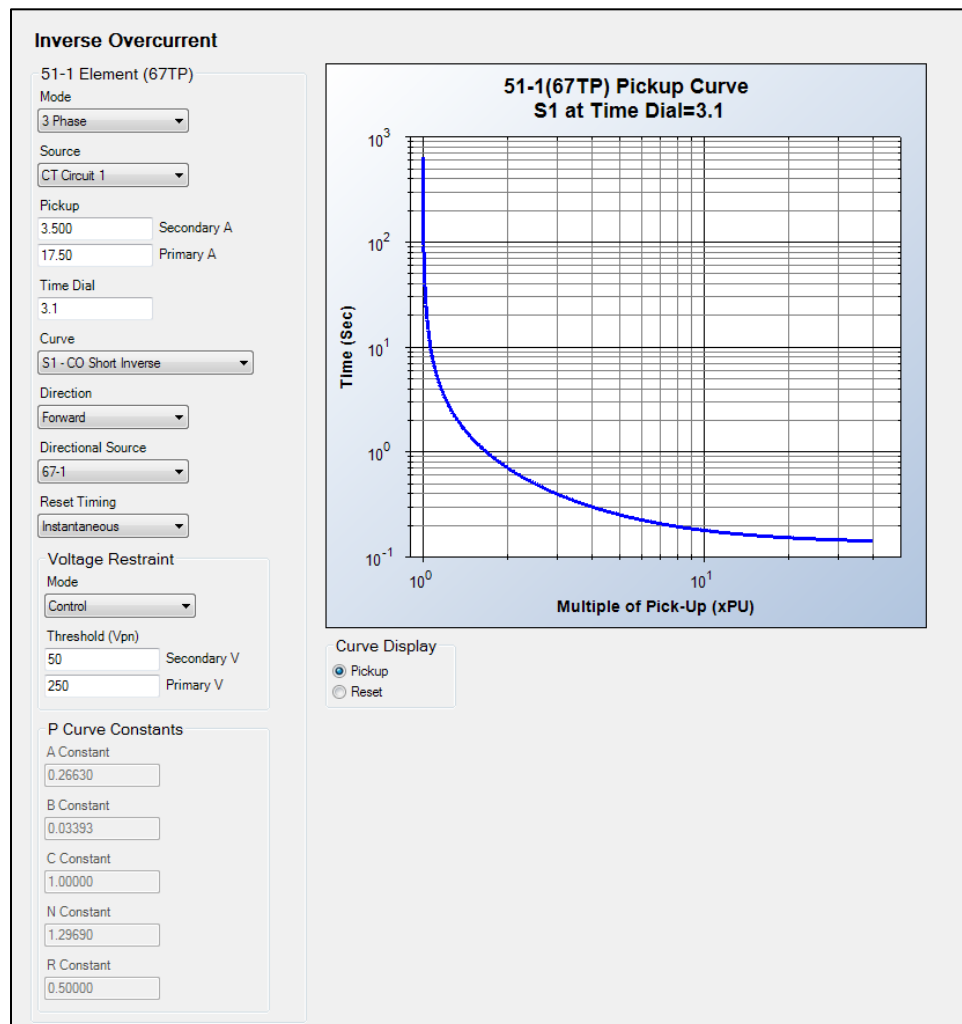

Figure 16-4. Inverse Overcurrent Settings Screen
Inverse overcurrent element operational settings are configured on the Inverse Overcurrent (51) settings screen (Figure 16-4) in *BESTCOMSPlus*.